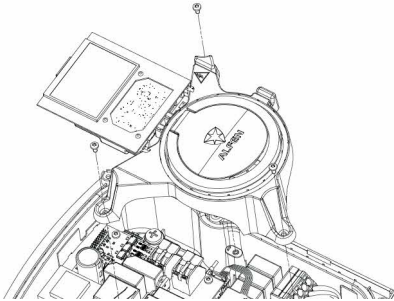

Figure 6: Detach subframe
6. Remove the cap (14) on page 2).
8. Attach the transparent subframe by removing the three Torx T20 screws. See figure 6